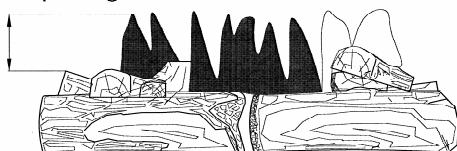

Figure 20 – Correct Burner Flame Pattern
- Figure 20 shows a correct burner flame pattern.